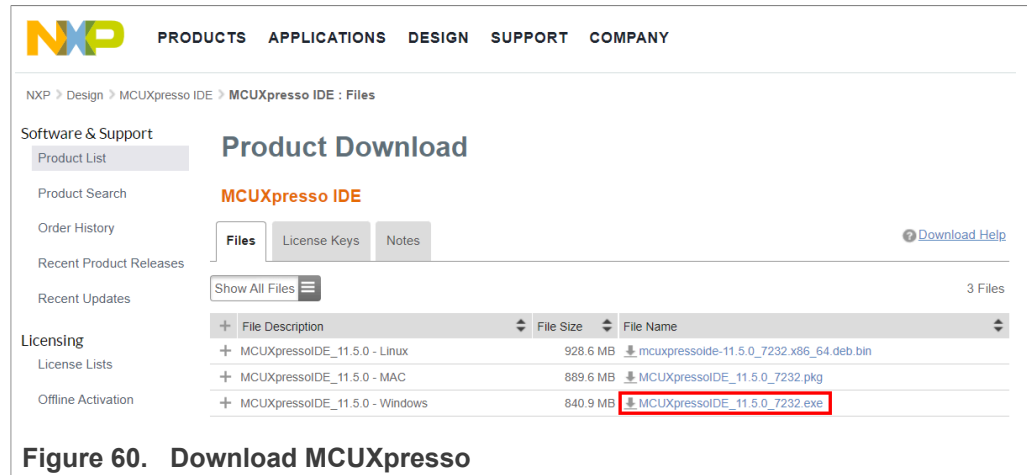

Figure 60. Download MCUXpresso
6. Select your MCUXpresso product version and click on the corresponding **File Name** to start the download as shown in Figure 60: